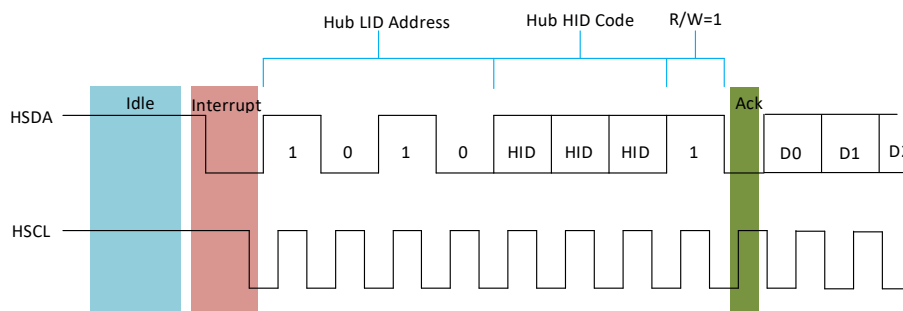

Figure 9 SPD5 Hub Interrupt - Host ACK Followed by SPD5 Hub Device IBI Payload
- a. The Host sends ACK on 9th bit to accept the interrupt request. At this point, if the SPD5 Hub confirms that it has won the arbitration, the SPD5 Hub device transmits the IBI payload as shown in Table 64 and Table 65 for PEC disabled and PEC enabled configuration respectively. Figure 9 just shows the first two data bits of the MDB byte to illustrate the timing. The interrupt payload contains MDB followed by 8-bit register contents of MR51 and MR52 in order. The host then issues the STOP command. Note the timing waveform in Figure 8. The host then accepts the IBI payload if it sends an ACK on 9th bit to accept the interrupt request. The host can interrupt the IBI payload at T. If host stops the IBI payload at T bit in the middle of payload, the SPD5 Hub device retains the IBI status flag MR48[7] = '1' and Pending Interrupt Bits[3:0] internally and waits for the next opportunity to request an interrupt. If the SPD5 Hub device successfully transmits the entire IBI payload, it then clears IBI status flag MR48[7] = '0' and Pending Interrupt Bits [3:0] = '0000' on its own and does not request for an IBI again unless there is another different event occurs; for another same event, the device does not request for an IBI.